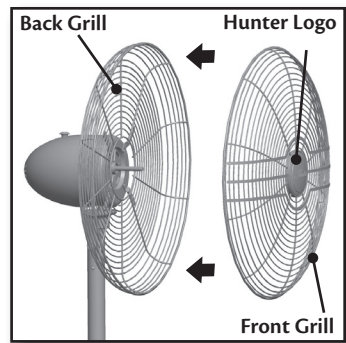

Figure 16
- Place the front grill against the back grill so that the Hunter logo faces right side up and push together until the tabs on the grills hold them together. Figure 16.